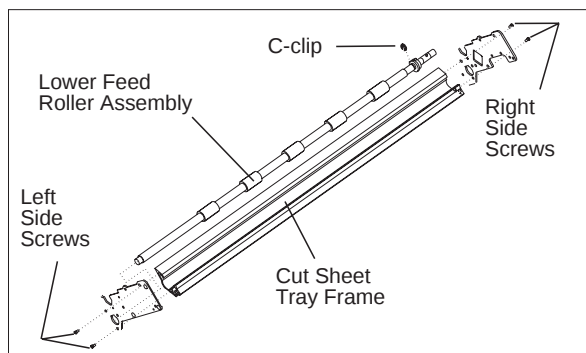

Figure 172. Lower Feed Roller Assembly
- b. Remove the retaining clip (called 'C-clip' in Figure 172 on page 437 from the lower feed roller shaft on the right side, and remove the lower feed roller assembly.